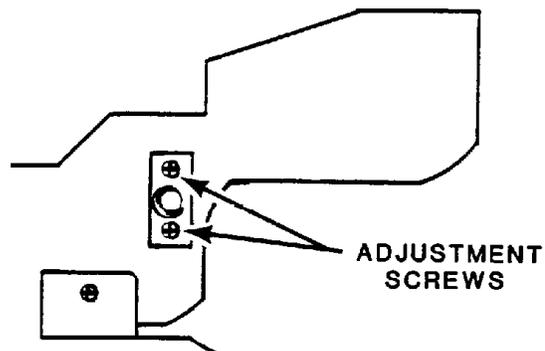

FIGURE 5
2. When a difference in the density across the width of the label exists, loosen the two (2) screws holding the shaft retaining plate. Move the retaining plate vertically until even density is gained. (Figure 5)